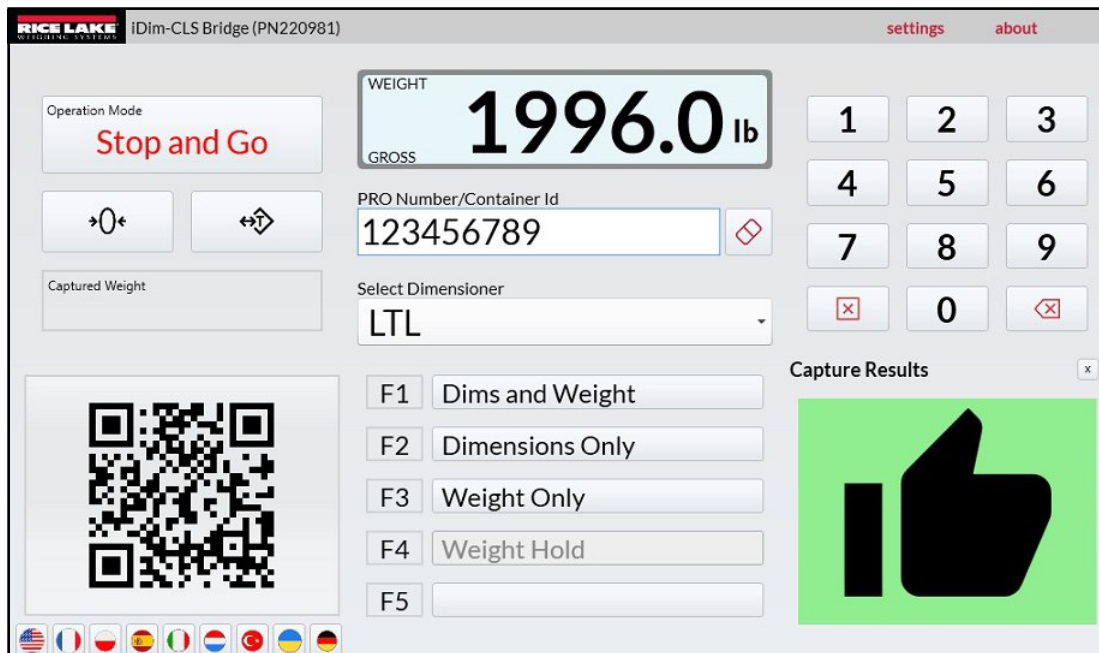

Figure 5-5. Weight Results as Thumbs Up/Down
- **As Thumbs Up/Down:** Shows weight results as a thumbs up or down icon (see Section Figure 5-5. on page 16)